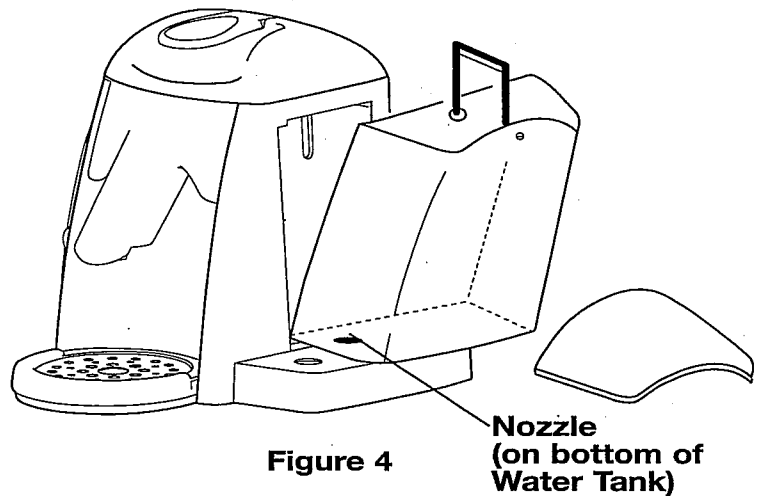

Figure 4
4. Locate the water nozzle at the bottom of the Tank and fit it back into the opening on the Base (down and in) until it snaps into place, see Figure 4. To avoid possible water leakage, check to make sure the Water Tank is fitted properly in position.